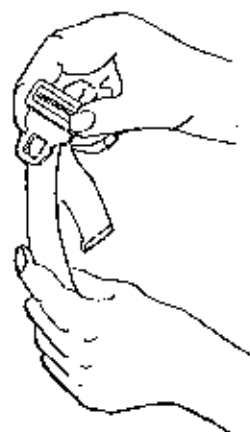

Figure 71
- To lengthen the restraint, grasp the buckle latch plate, turn it at an angle to the webbing, then pull it out (Figure 71). A hemmed tab at the end of the webbing prevents the latch plate from coming off of the strap.